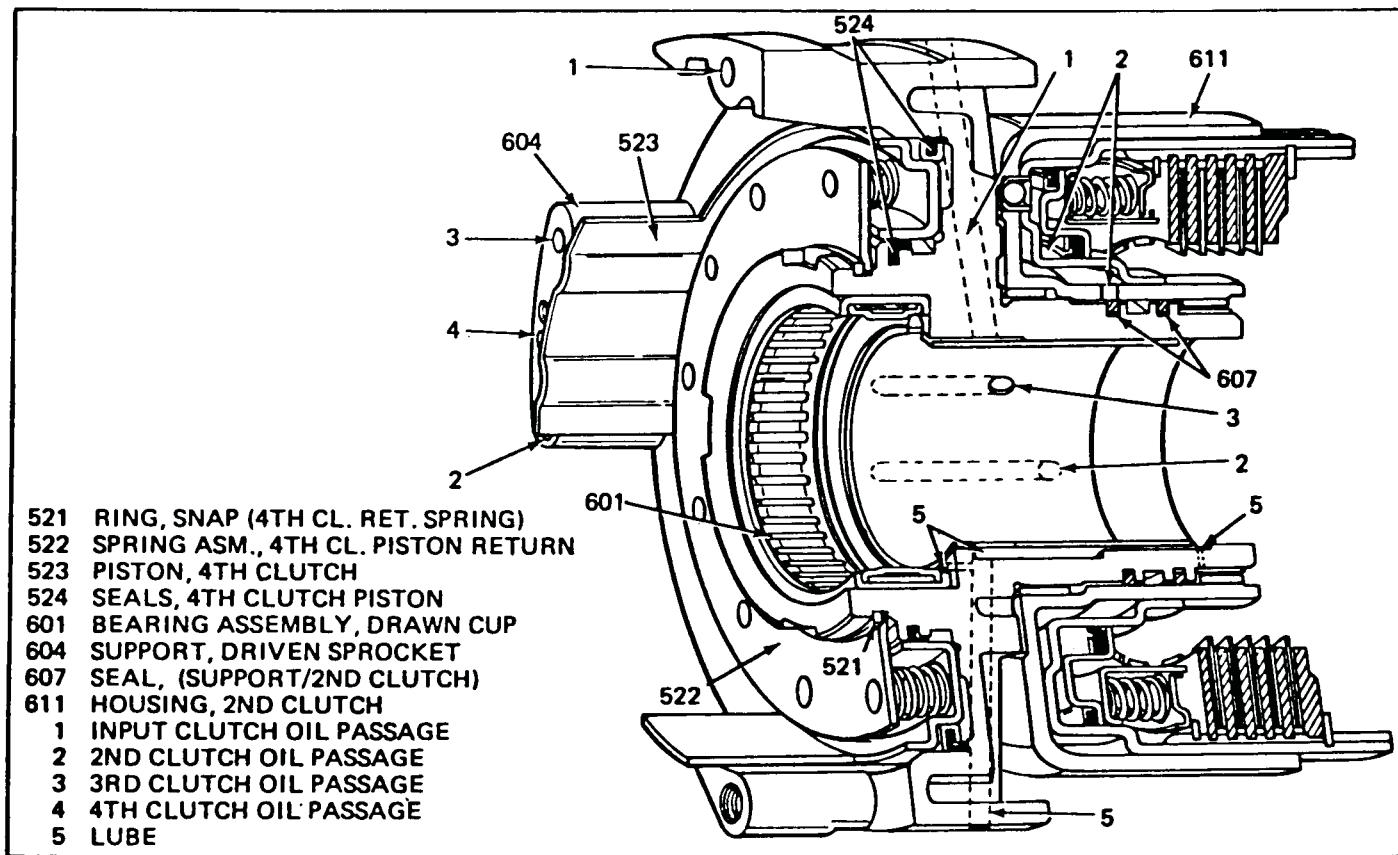

Figure 83
3. Install 4th clutch piston assembly into driven sprocket support, making sure that piston is oriented with support as shown in Figure 83. Use care so as not to cut outer lip seal.